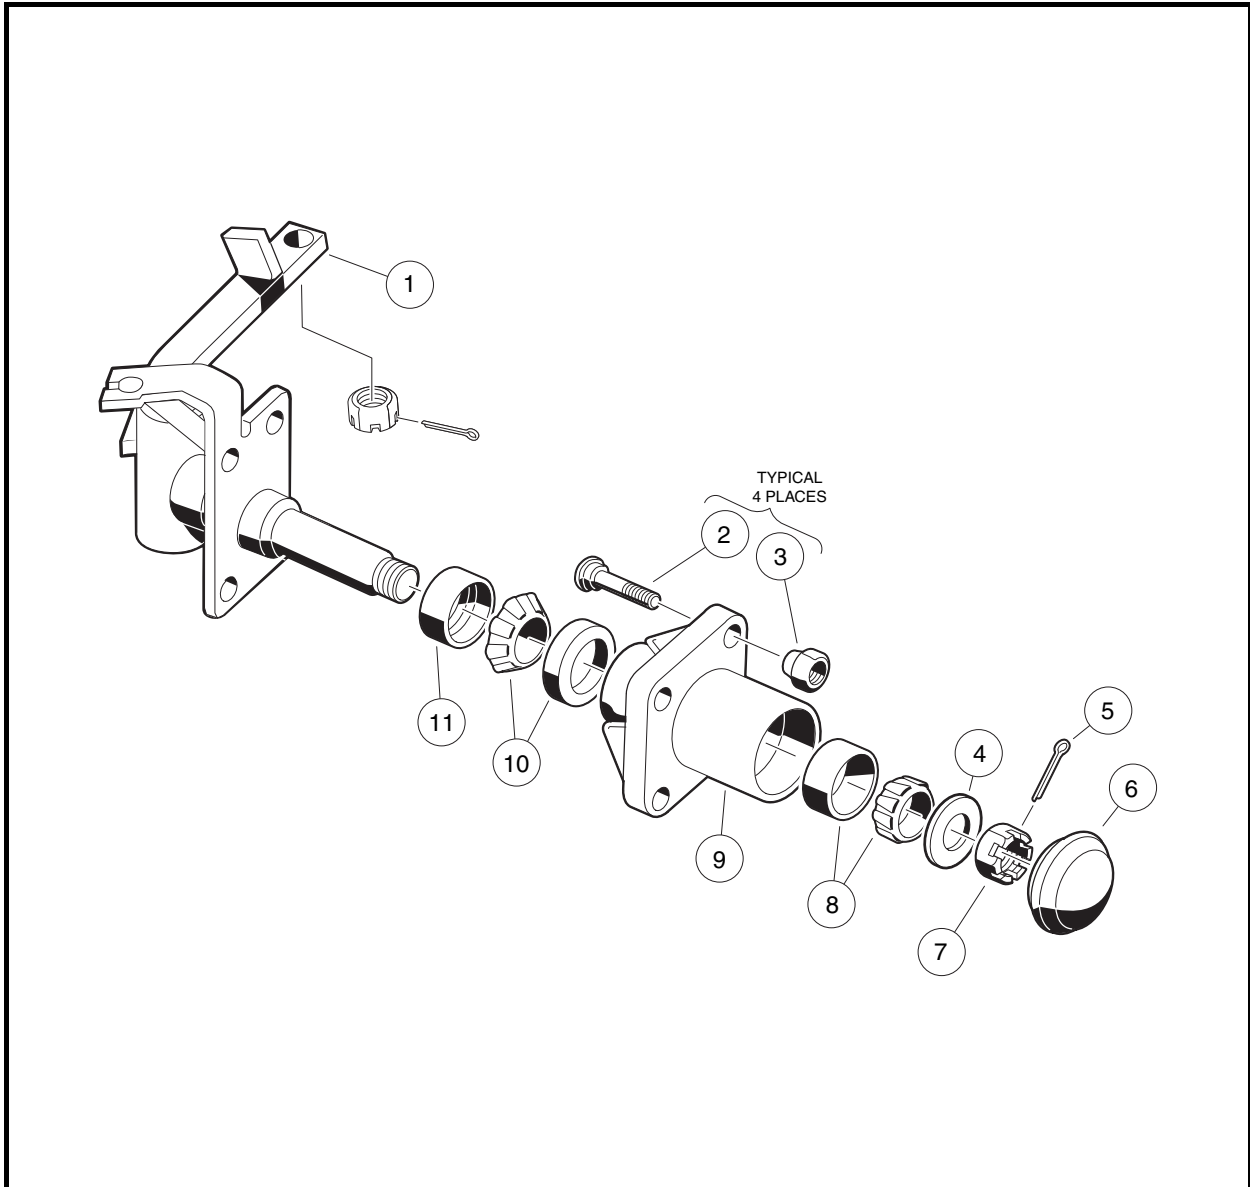

Figure 6-34 Front Spindle Assembly (Four-Wheel Brake Vehicles)
6. Remove dust cap (6) on hub and bearing assembly (**Figure 6-34, Page 6-19**).
7. Remove cotter pin (5) and hex nut (7) from spindle shaft (**Figure 6-34, Page 6-19**).